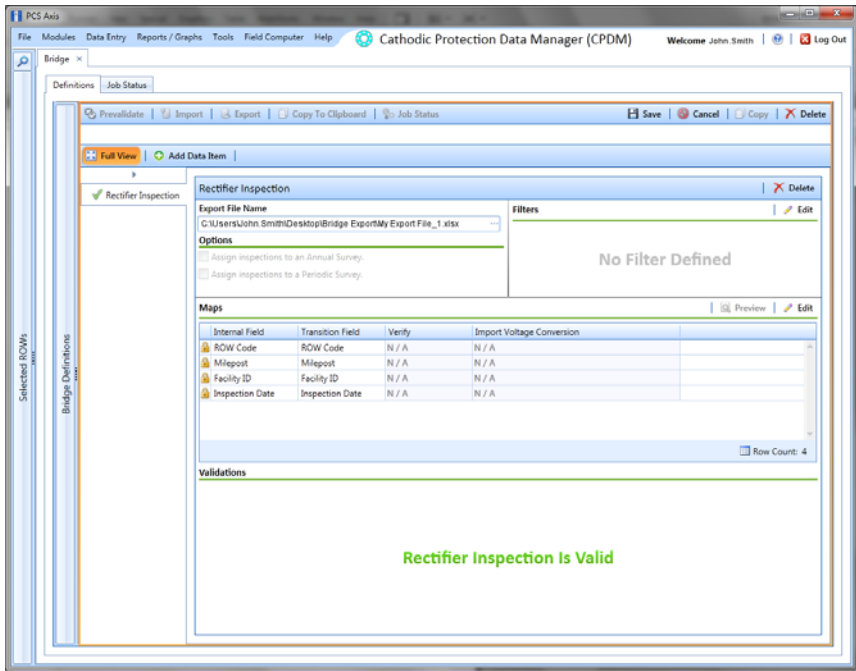

Figure 9-20. Bridge Definition
- c Click  **OK** to close the dialog box and return to the definition window (Figure 9-20). Then click  **Save**.
The path to the export file displays in the field *Export File Name* (Figure 9-20).